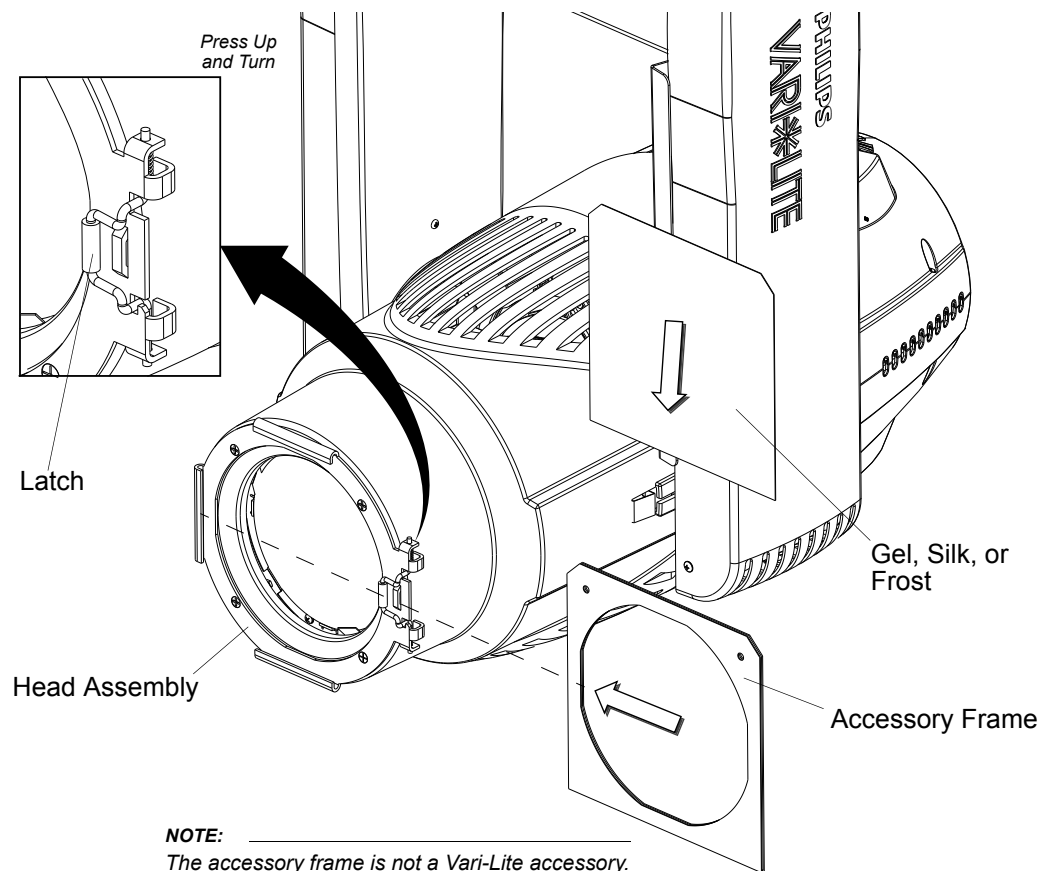

Figure 2-2: Installing a Frame or Top Hat
- Step 3. Remove frame/top hat, if any (Figure 2-2).